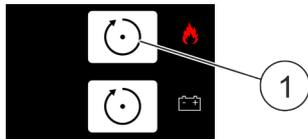

Fig. 22: [Reset] button
31. ▶ Reset the alarm with the upper [Reset] button (Fig. 22/1).